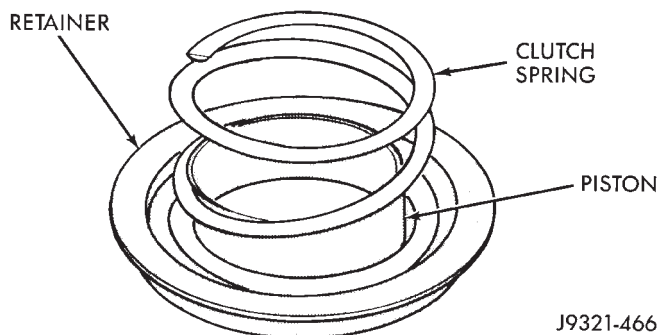

Fig. 134 Clutch Piston Spring Installation
(5) Position spring in clutch piston (Fig. 134).